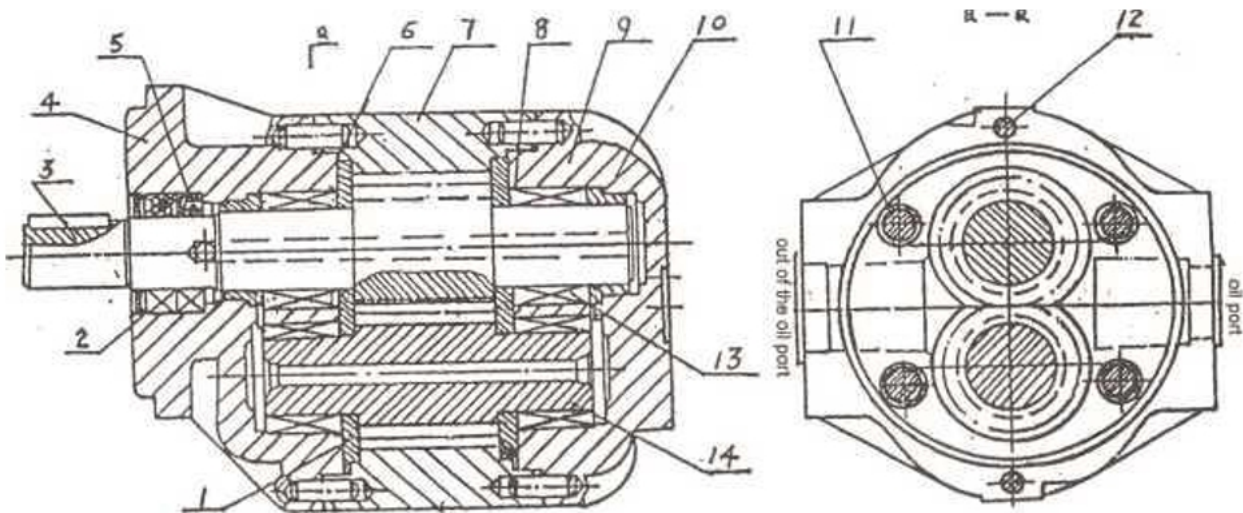

Figure 2-15: Illustration for Gear Pump Structure
3) Gear pump (Figure 2-15): the working device's hydraulic system and the steering hydraulic system share one common gear pump, with the operating pressure as 16 Mpa and flow as 40ml/r.
The frame is the base for connection and installation of all the machine's parts, consisting mainly of front frame and rear frame. Additionally, the rear frame is equipped with the rockers (see Figure 2-15). The front and rear frames are hinged with pin rolls. The front frame is positioned on the front axle and is allocated with the working devices. The rear frame is linked with rear axle through the rockers, where installed are the engine, torque converter, gear box, cab, control mechanism. The steering mechanism is used to keep the front and rear frames rotating around the jointed shaft. The rear frame and rockers are linked with pin rolls. The rocker can move up and down at 12° in line with the center of the jointed shaft so that the can travel on the uneven roads but still with fine stability.